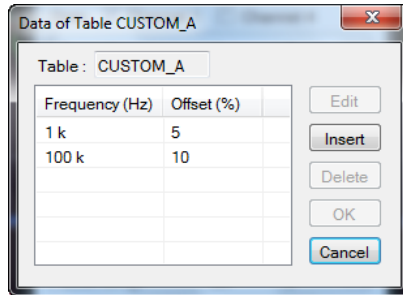

Figure 2-73 Custom FDO table data dialog
- 5 The selected custom FDO table data dialog is displayed as shown in Figure 2-73.